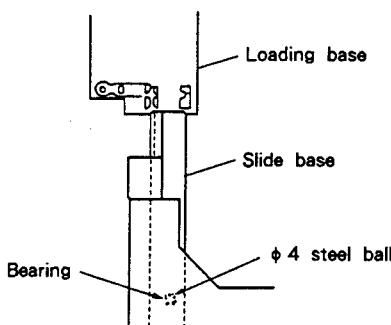

Fig. 7-10
<p>Re-mount the disc tray according to the following procedure when the grating adjustment is complete.</p> <ol style="list-style-type: none"> 1. Remove the disc and the spacer. 2. While lifting the clamp holder [marked ② in Fig. 7-5] with the right hand, hold the tray in the left hand as indicated by ③ and slide the slide base into the hard resin fittings on the loading base as shown in Fig. 7-10 to re-insert the disc tray. At this time, be sure to hold the steel ball in place with the index finger of the left hand. Also, be careful that the front panel is not damaged by the slide base and bearing of the steel ball's bearing (in the slide base) coming into contact with the panel. 3. Insert the slide base so that it fits into the two hard resin fittings at the rear of the loading base (see Fig. 7-11). 4. Insert the tray tightly.